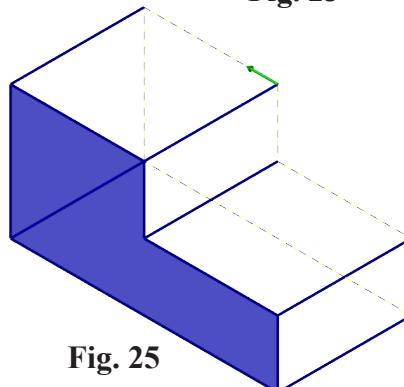

Fig. 25
Step 10. Chain a **rear line** of the block, Fig. 25.